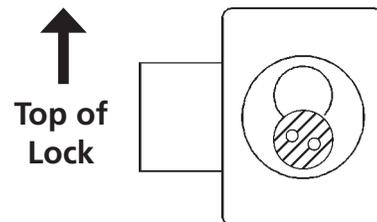

Fig. 4b - Front of door lock with prong driver in correct orientation
Step 7 - Insert the black plastic actuator and turn until the bolt is completely extended and the prongs are just past horizontal as in *Fig 4b*.